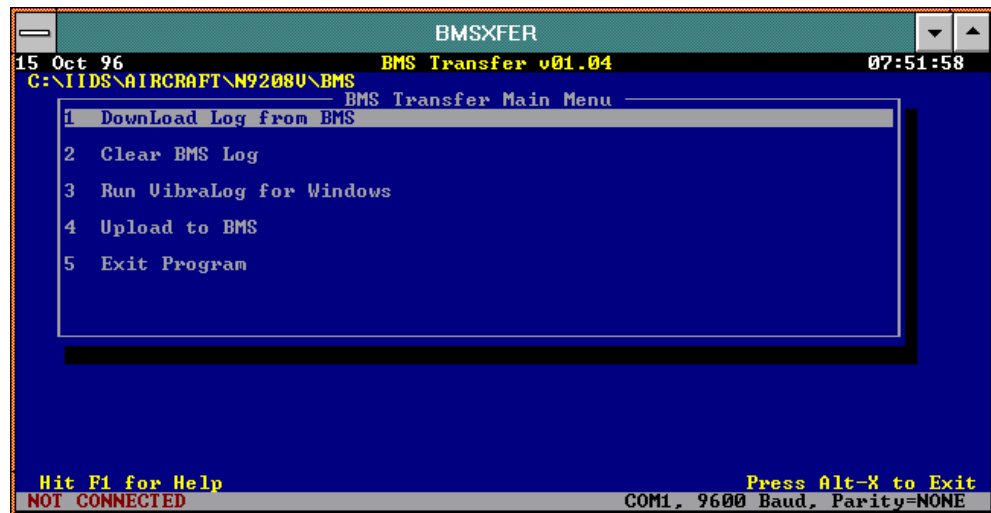

Figure 61. BMS Application Main Menu Screen
The screen will now switch to character mode for the BMS program and the BMS menu will appear (refer to Figure 61).
2. Select DownLoad Log from BMS option bar using the (↑ ↓) arrow keys and press the ENTER key or, press the number “1” and press ENTER (refer to Figure 61).
2. Select Clear BMS Log option bar using the (↑ ↓) arrow keys and press the ENTER key or pressing the number “2” and press ENTER (refer to Figure 61).
2. Select Upload to BMS option bar using the (↑ ↓) arrow keys and press the ENTER key or pressing the number “4” and press ENTER. (refer to Figure 61)